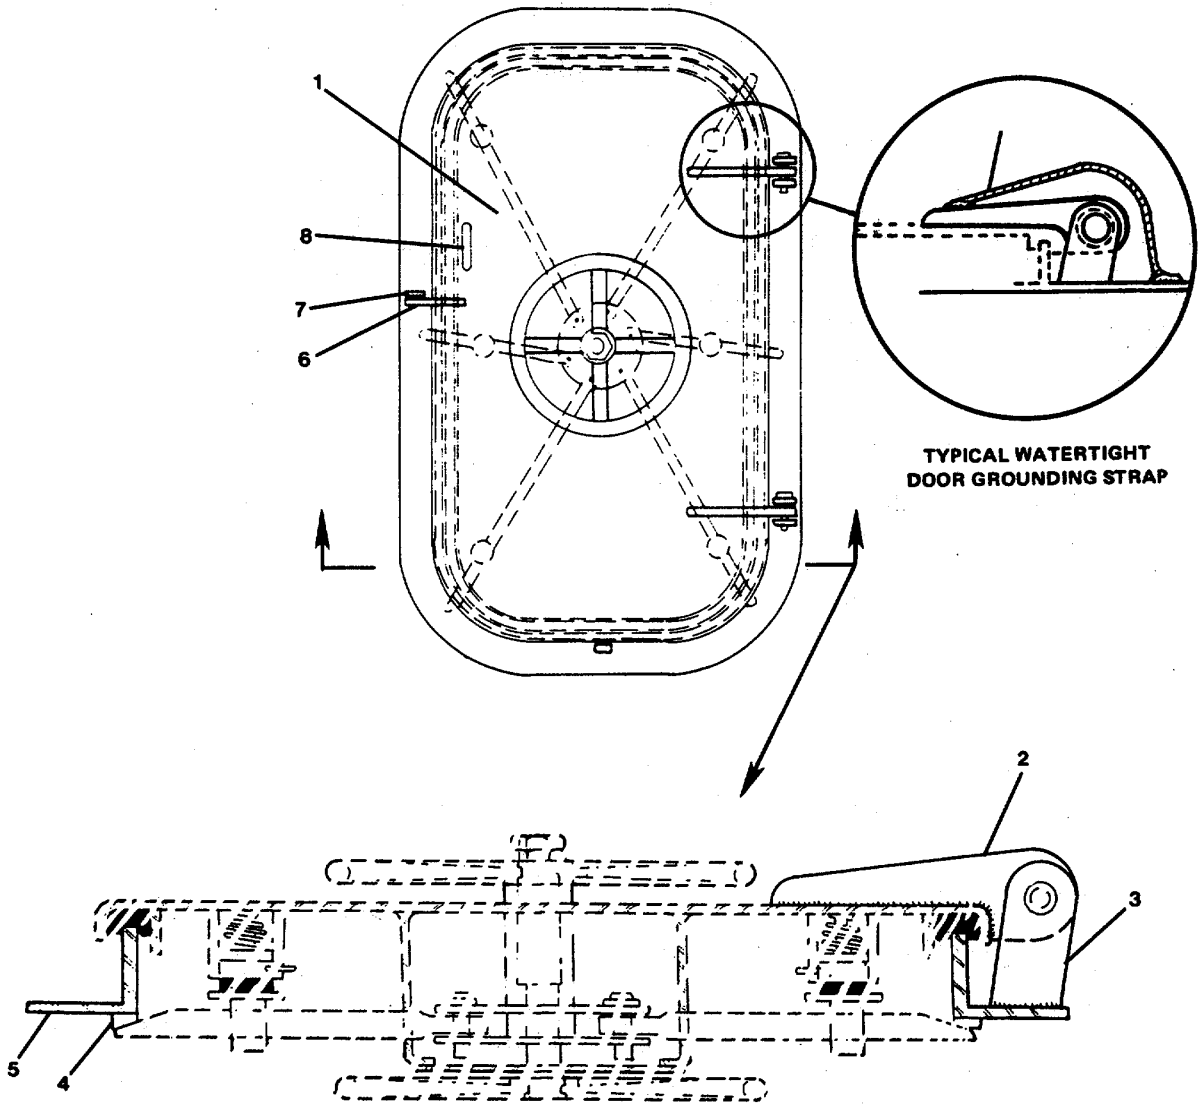

FIGURE 3-170. Repair Watertight Door, Quick Action, Left Hand (30 x 66).
- a. Install frame angle (5) and frame wedge (4) on door (1).
- b. Install hinge pad (3) and hinge blade (2) on door.
- c. Install grab handle (6) on door.
- d. Install hasp (7) and eye (8) on door.
**3-187. Repair Watertight Door, Quick Action, Left Hand (30 x 66). (Figure 3-170)**